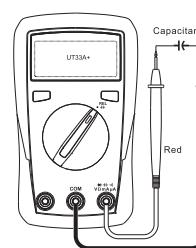

Figure 2a
5. Capacitance measurement (only for UT33A+, see Figure 2a)